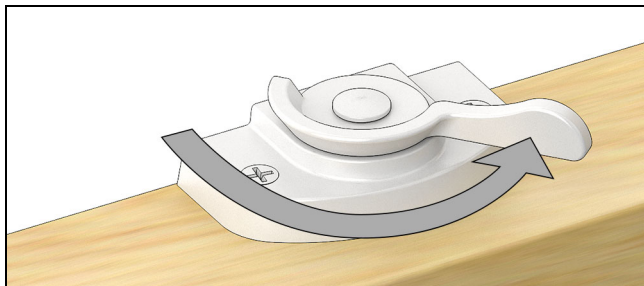

Figure 75
1. Unlock handle to 135°. See Figure 75.